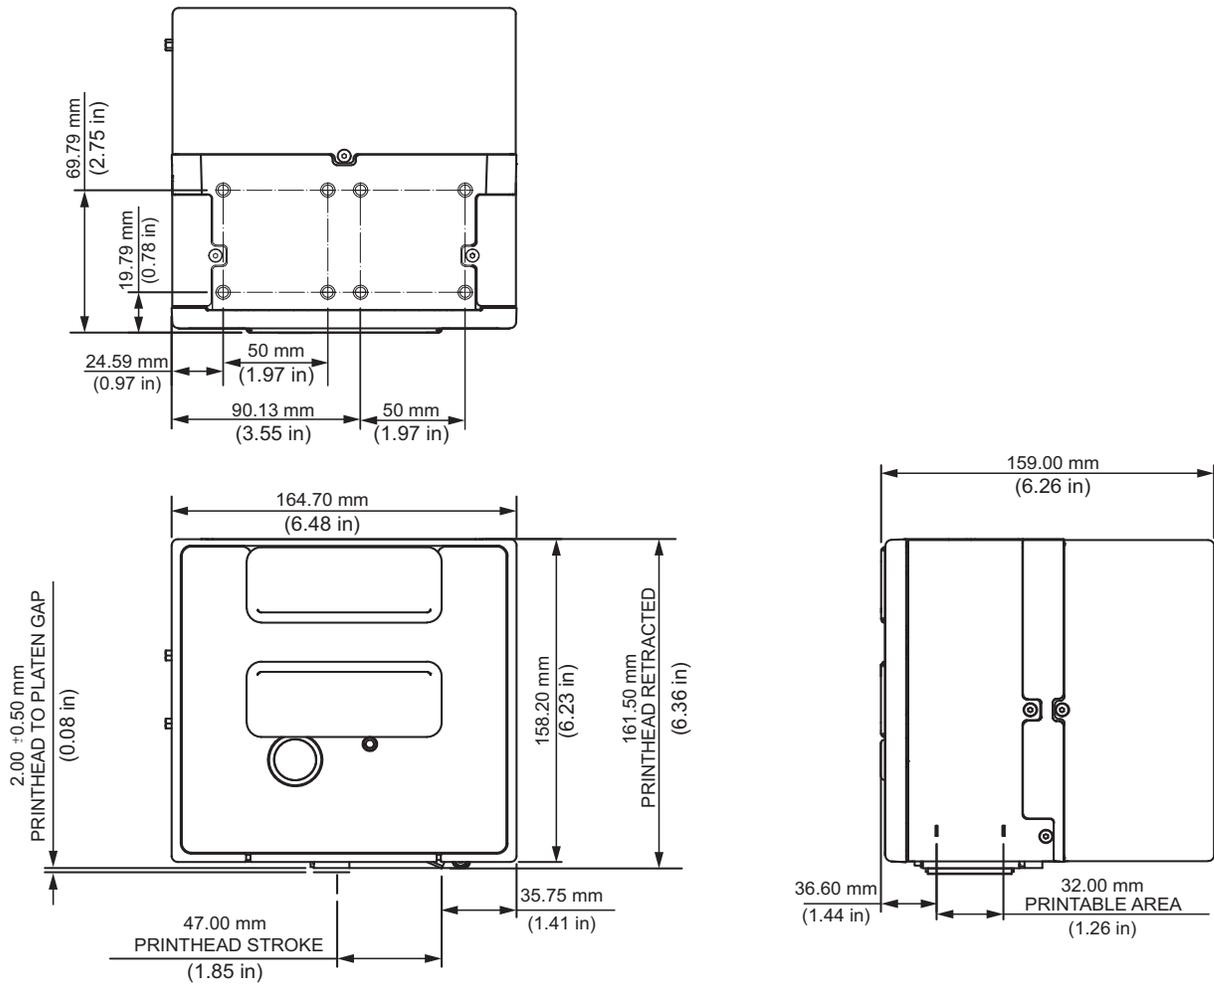

Figure A-2: 32mm LH Printer Dimensions
Figure A-2 shows the dimensions of the 32 mm (LH) printer.